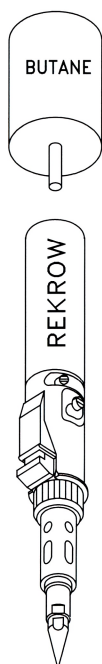

FIG 1
2. **Reverse the unit**; insert the gas container's nozzle vertically into Filling Valve. (FIG 1)